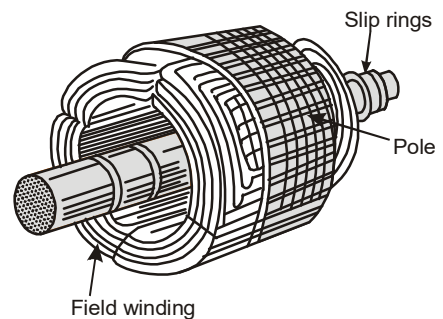

Fig. 4.72: Non-salient pole type rotor
- (b) **Rotor winding or Exciting winding** : It is placed in rotor slots and current is passed through the winding in such a way that poles are formed according to the requirement (see fig.4.72).